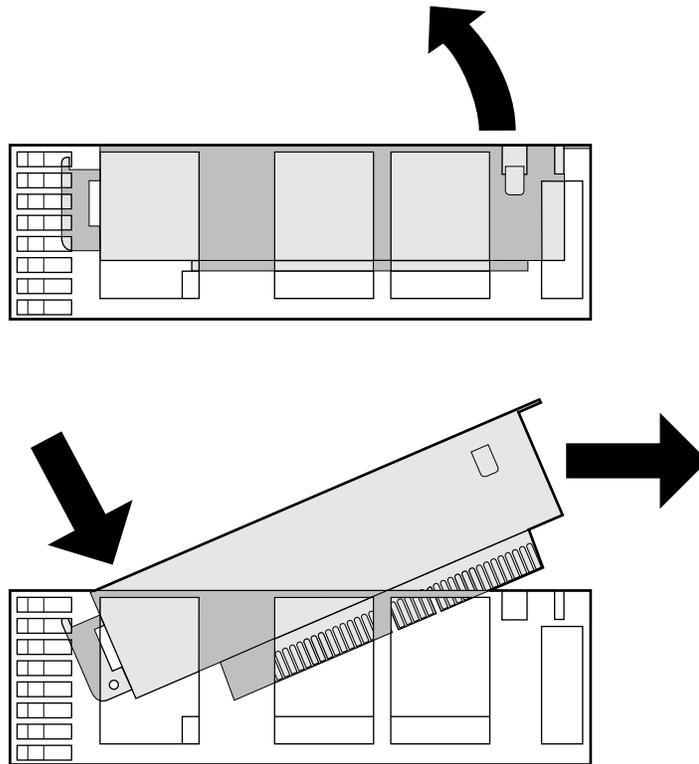

Figure 1-7 Removing the PCI Tray from the System Module Viewed from the Side
3. Push down slightly on the rear of the PCI tray to remove it from the system module (Figure 1-7).